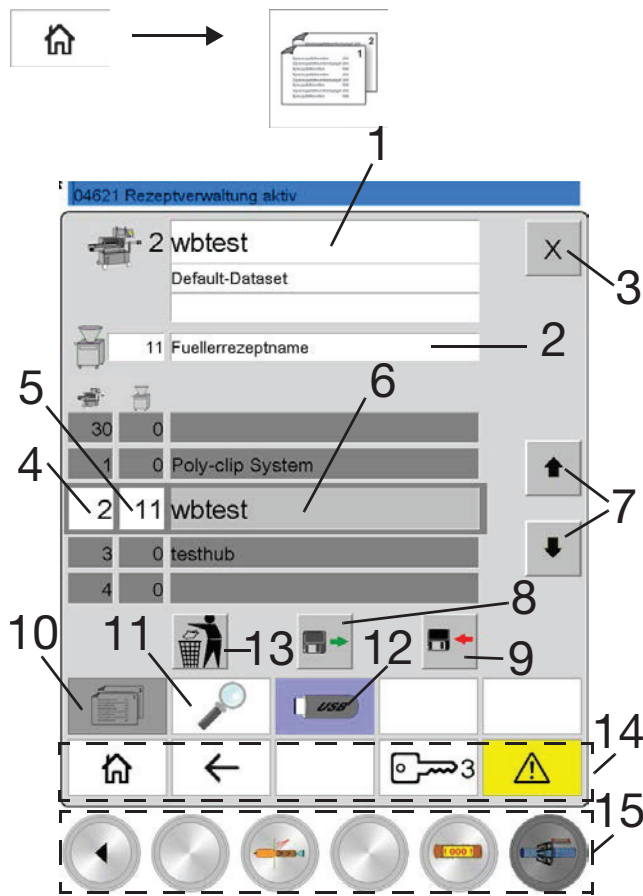

Fig. 4-50 Recipe management
- Using the selection buttons 6 and 7 (Fig. 4-50), select the desired recipe.
- Press the "Load recipe" button (8, Fig. 4-50):
- Using the selection buttons 6 and 7 (Fig. 4-50), select a saving location. Remember, all parameters already present in the selected saving location will be overwritten!
- Press Recipe name 1, Fig. 4-50.